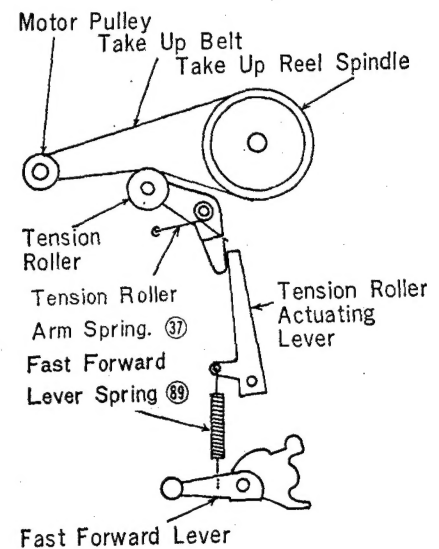
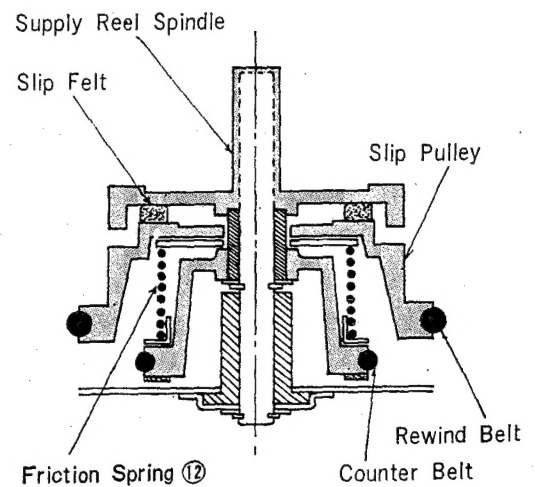

Figure 11
Figure 12
- B. If tension is not within the above range, make the following adjustments. (Refer to Figure 11 and Figure 12)
- a. If the torque is too strong, loosen or replace Tension Roller Arm Spring (37) and if too weak, tighten or replace it.
- b. If the torque is too weak, tighten or replace Fast Forward Lever Spring (89)
- c. Clean oil and dust from all drive points to eliminate slippage and Slip Felt. Especially check coupling of Rewind Belt. Adjust the torque with the Friction Spring (12) of Supply Reel Spindle. If the torque is too strong, loosen or replace the Friction Spring; and if too weak, tighten or replace it.